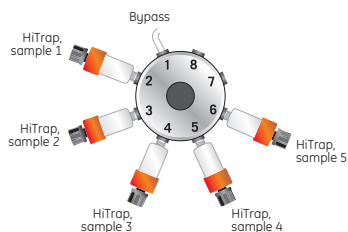

Fig 2. Column connections at column valves V2 and V3.
- Connect selected columns as shown in Figure 2 and prepare them according to the "Buffer suggestions and column preparations" cue card.